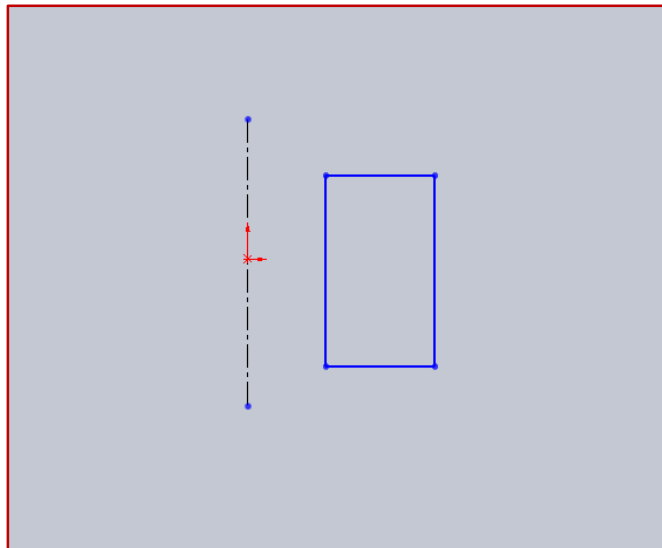

Figure 4.1 – Wheel Sketch
- ✓ In the **Top** plane, sketch the rectangle in Figure 4.1 using the **Corner Rectangle** command on the **Sketch** tab of the **CommandManager**.